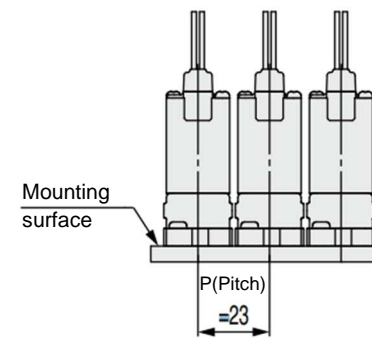

Figure 1
- When mounting the solenoid valves next to each other, P (pitch) should be 23 mm or more. (See figure 1) Applicable model: LVMK23, 205 (Base mounted)